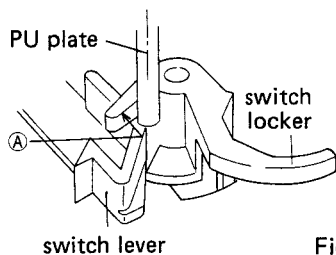
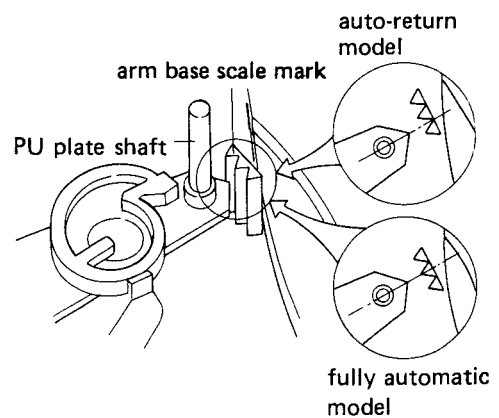

Fig. 1-8
Fig. 1-9 Adjustment of PU plate attachment location
In order to turn the power OFF, the PU plate shaft touches surface (A) of the switch locker pushing it over so it locks with the switch lever turning the micro-switch OFF (fig. 1-8). If the amount of push on the switch locker is insufficient, it can not lock with the switch lever. With the tonearm locked in the arm rest, as shown in figure 1-9, attach the PU plate precisely midway between the first and second points from the arm base scale mark counting away from you (only for auto-return models; for fully automatic models, align with the center point).